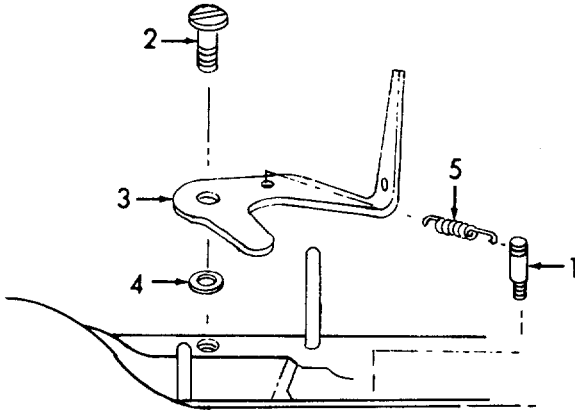

Figure 6-119. Front Thread Tension Lever, Removal.
- (12) Refer to Figure 6-119. Remove spring post (1).
- (13) Remove screw (2), lever (3), and washer (4).
- (14) Remove spring (5).